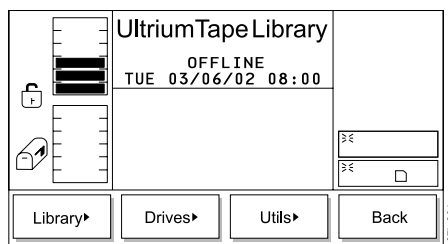

Figure 122. Setup Menu
2. Press the button below the **Setup** softkey. The Setup Menu displays (see Figure 122).